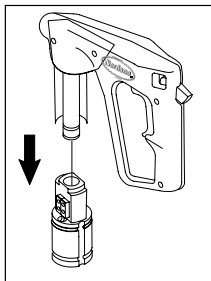

Figure 36 Remove the Pivot Sleeve
5. See Figure 36. Slide the pivot sleeve off the gun body.